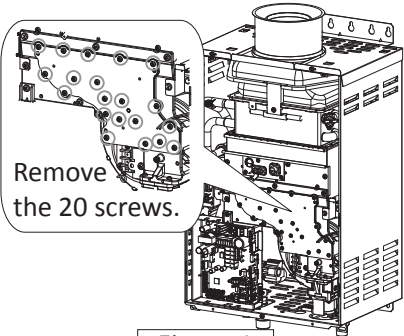

Figure 1
- Use a Phillips screwdriver to remove the 20 screws on the manifold plate shown in Figure 1.
- After making sure that the manifold nozzles are secure, install the manifold cover using the 20 screws that were removed during step 5. See Figure 1.